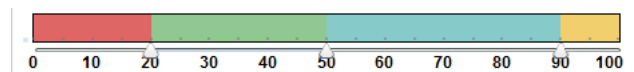

FIG. 427 Edit Bar Graph dialog - new region (0-20% in red)
- c. Repeat steps 6-7 to define additional colored regions in the bargraph, as desired. FIG. 427 shows the bargraph with on more region (0 - 20%) defined (in red):